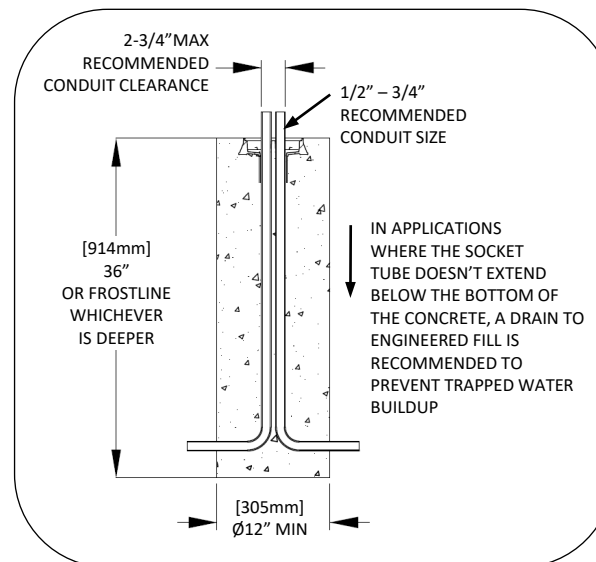
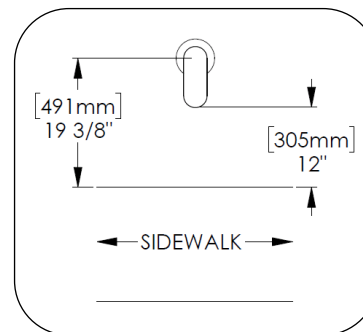

Fig. 1 – Minimum footing recommendation
Fig. 2 – Recommended setback from sidewalk
1. Prepare footing as required by local codes, see Fig. 1 and Fig. 2 for recommendations.